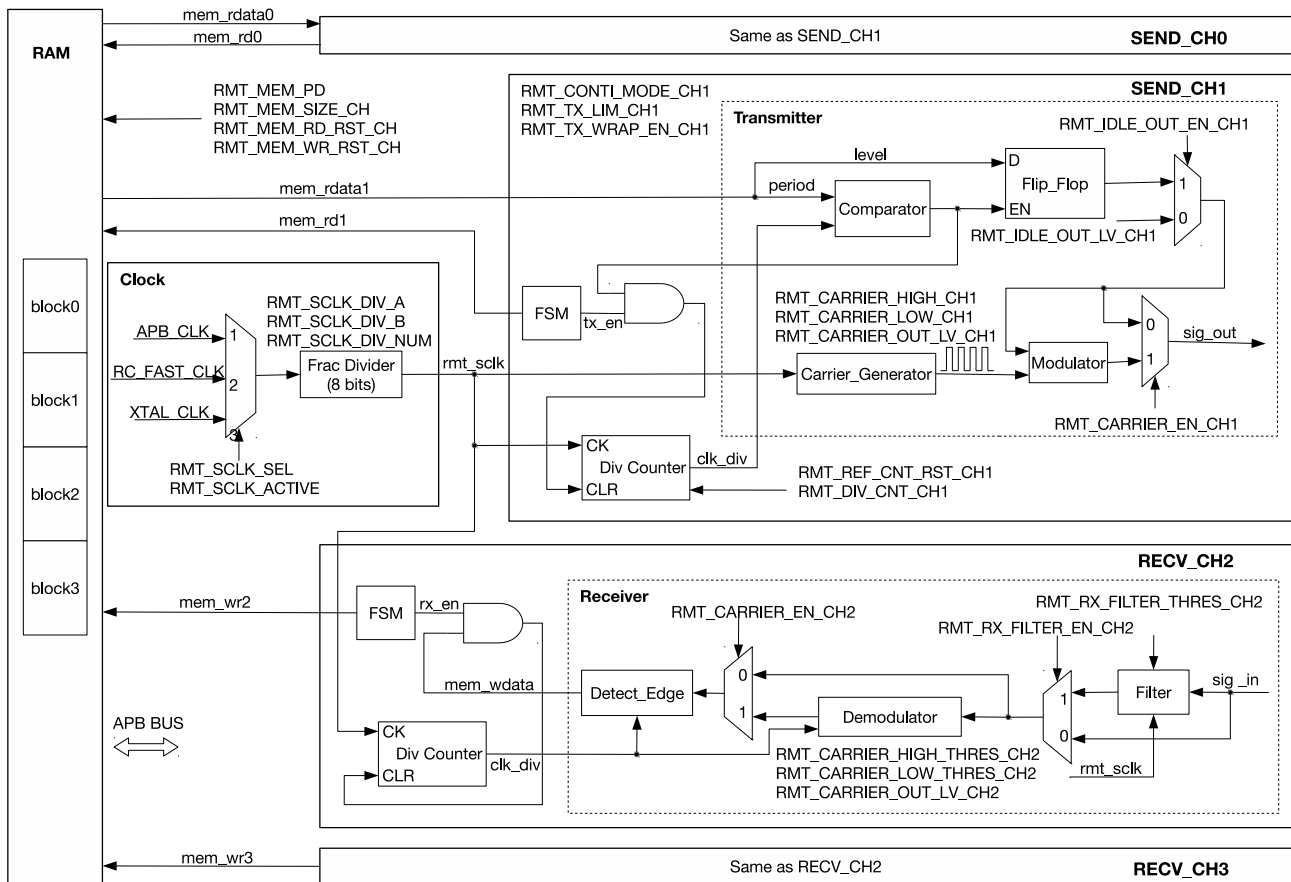

Figure 33.3-1. RMT Architecture
- Period: points out how many `clk_div` clock cycles the level lasts for, see Figure 33.3-1.
The clock source of RMT can be APB_CLK, RC_FAST_CLK or XTAL_CLK, depending on the configuration of `RMT_SCLK_SEL`. RMT clock can be enabled by setting `RMT_SCLK_ACTIVE`. RMT working clock (`rmt_sclk`) is obtained by dividing the selected clock source with a fractional divider, see Figure 33.3-1. The divider is:
`RMT_DIV_CNT_CH $n$ /m` is used to configure the divider coefficient of internal clock divider for RMT channels. The coefficient is normally equal to the value of `RMT_DIV_CNT_CH $n$ /m`, except value 0 that represents coefficient 256. The clock divider can be reset by clearing `RMT_REF_CNT_RST_CH $n$ /m`. The clock generated from the divider can be used by the counter (see Figure 33.3-1).